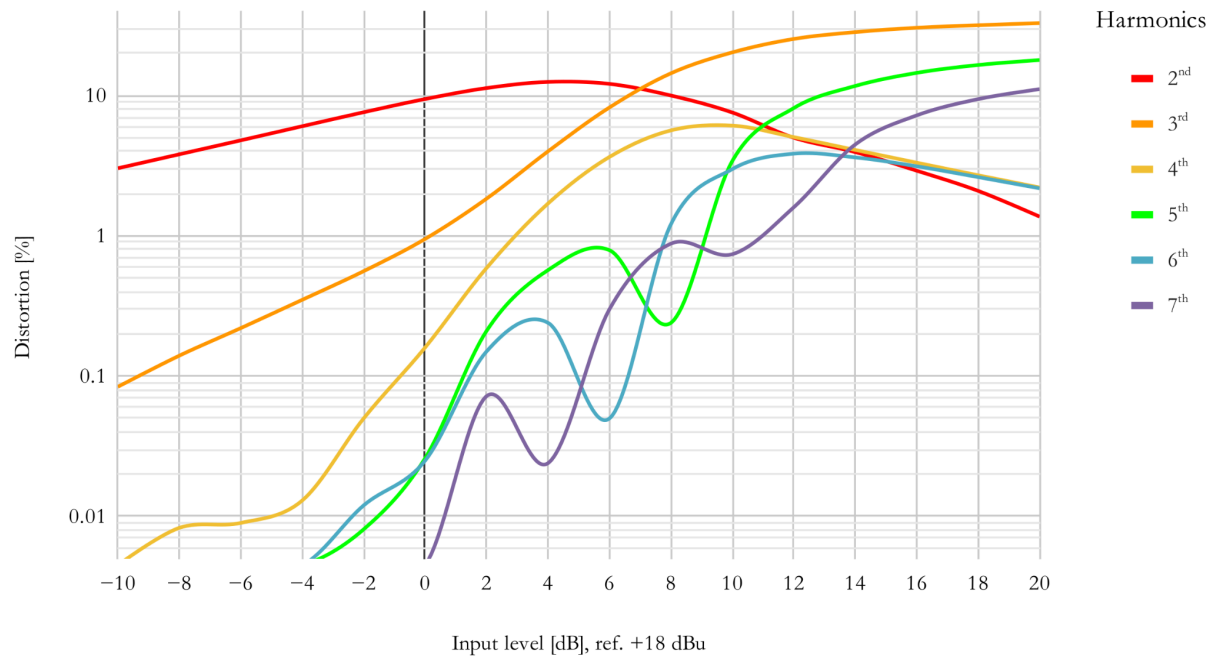

Figure 4. Symmetry 0%, no feedback.
- produces the largest amount of even harmonic distortion before odd harmonics begin to dominate (see Figure 4).